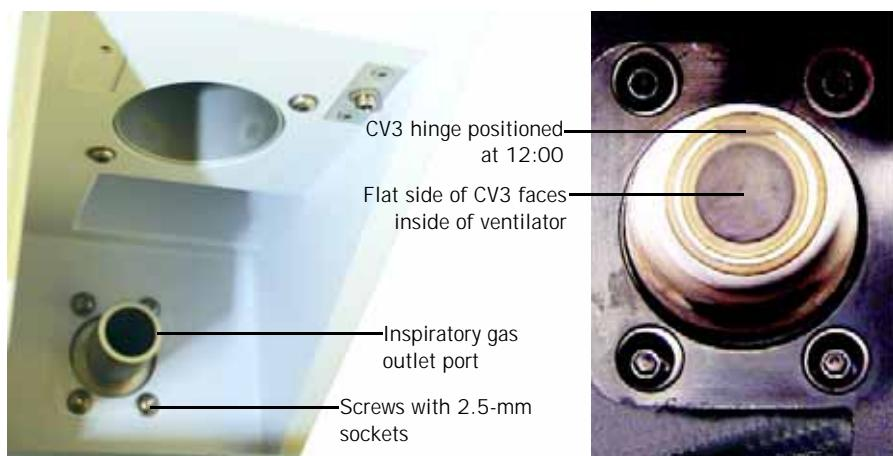

Figure 10-48: Inspiratory Outlet Port and Check Valve CV3 Orientation
8. Using a 2.5-in. hex driver, remove the four screws and washers that surround the inspiratory gas outlet port (Figure 10-48). Pull the outlet from the inspiratory manifold.
6. Install the four screws and washers at the inspiratory outlet port (Figure 10-48), but do not tighten until the outlet port is installed and secured.